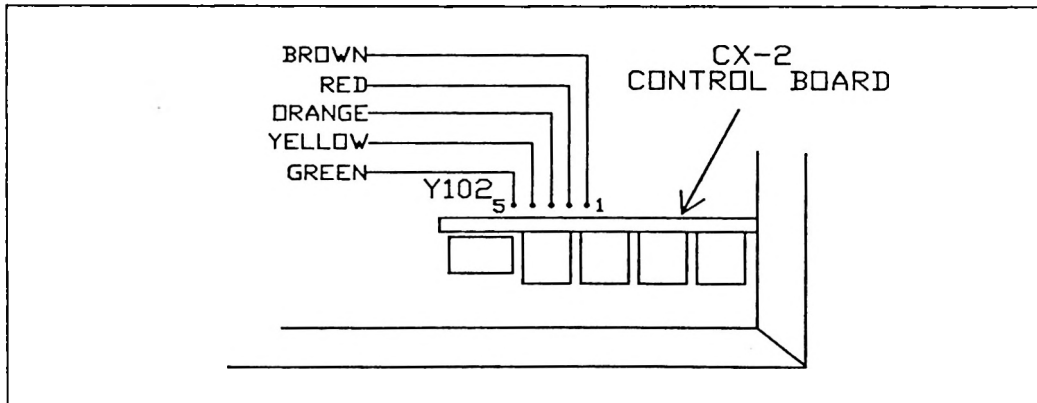

Figure 4-4
7. Strip approximately  $\frac{1}{8}$ " of insulation from the unterminated wire ends of the cable. Carefully solder the five (5) wires into the Y102 position following the color scheme indicated in Figure 4-4, Y102 Orientation.